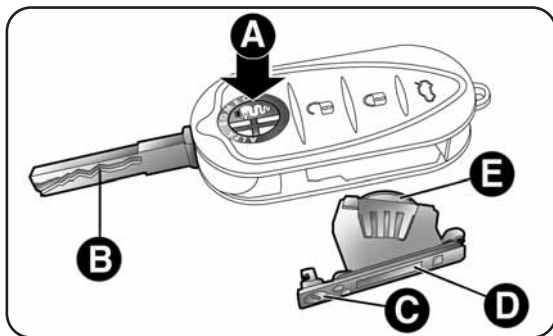

fig. 17
- press button A-fig. 17 and bring the metal insert B into the open position; turn screw C  using a small point screwdriver;